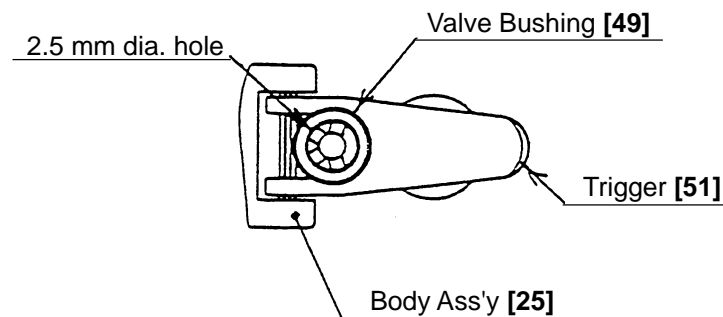

Fig. 18
- Plunger Spring [46] and Plunger (B) Spring [58] are small and apt to be twisted and lost. Be careful when handling them.
- Mount the Valve Bushing [49] again facing the four 2.5 mm dia. holes at its center to the Body Ass'y [25] side (Fig. 18).